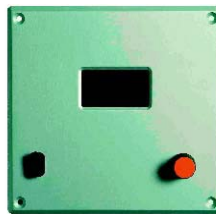

Figure 2 – DDC, Direct Digital Controller
- Direct Digital Controller (DDC) with LCD display and knob (encoder), see Figure 2, page 8.